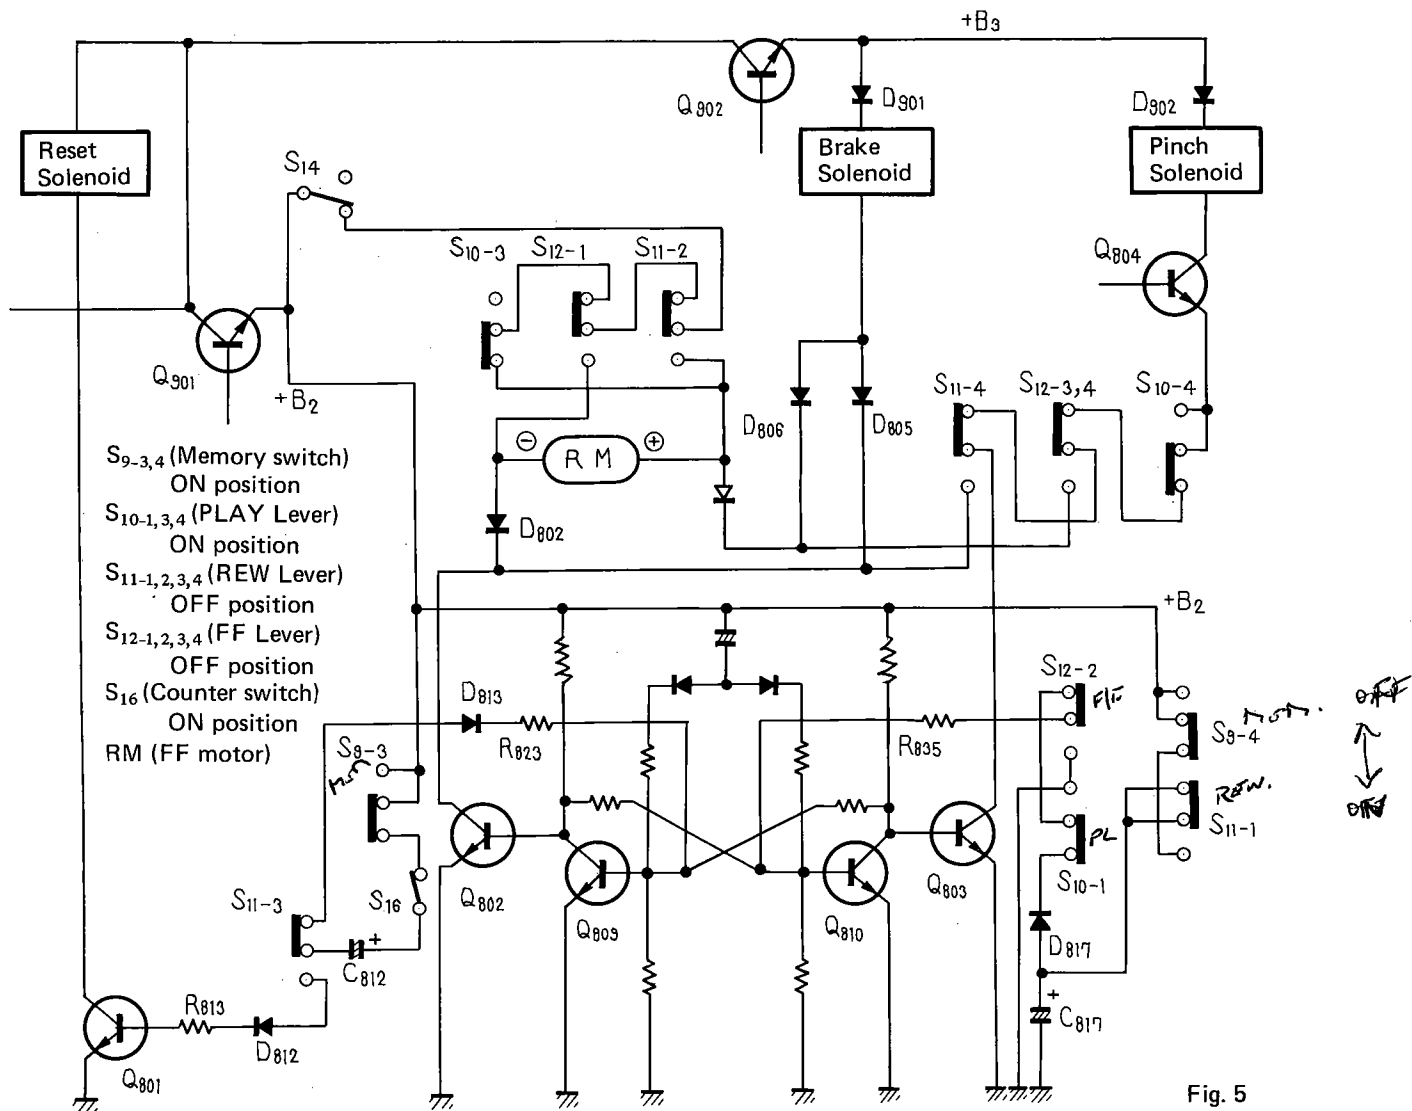

Fig. 5
2. Current is applied to the REW (FF) motor RM from $+B_2$ by the route $S_{11-2} - \text{RM} - D_{802} - S_{11-4} - Q_{803}$ and the tape rewind is performed.
3.5 MEMORY PLAY (Fig. 5)